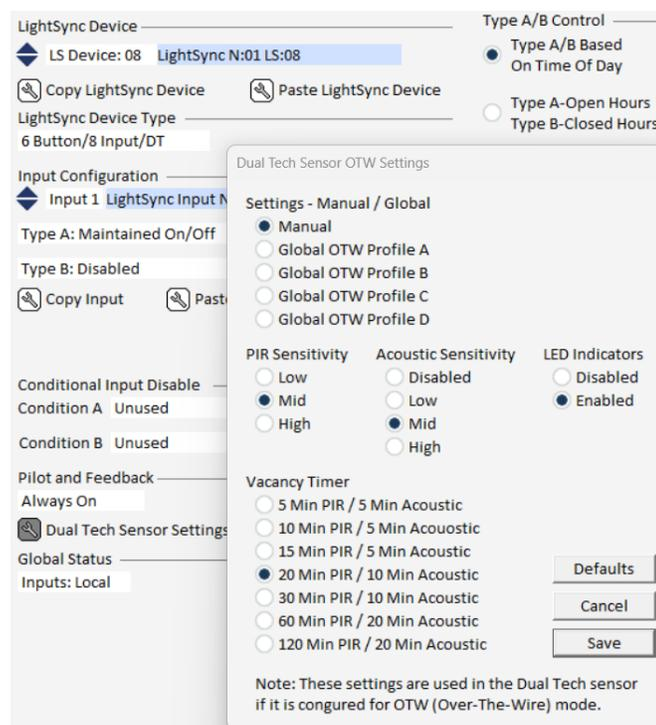

Figure 3 – Dual Tech Sensor Settings
- D. Under Pilot / Feedback / DT Settings there is a Tool button for **Dual Tech Sensor Settings (ALL 8 Pilots)**. This will open a setting screen as shown in Figure 3. This tool has the setting options for the PIR and acoustic sensitivity, disable or enable of the LED indicators on the occupancy sensor, and the vacancy off delay time for the PIR and additional acoustic time duration used to hold the closure On after motion is no longer detected. There is a button for “Defaults” that will change the sensor back to the factory default settings, plus Cancel and Save buttons.